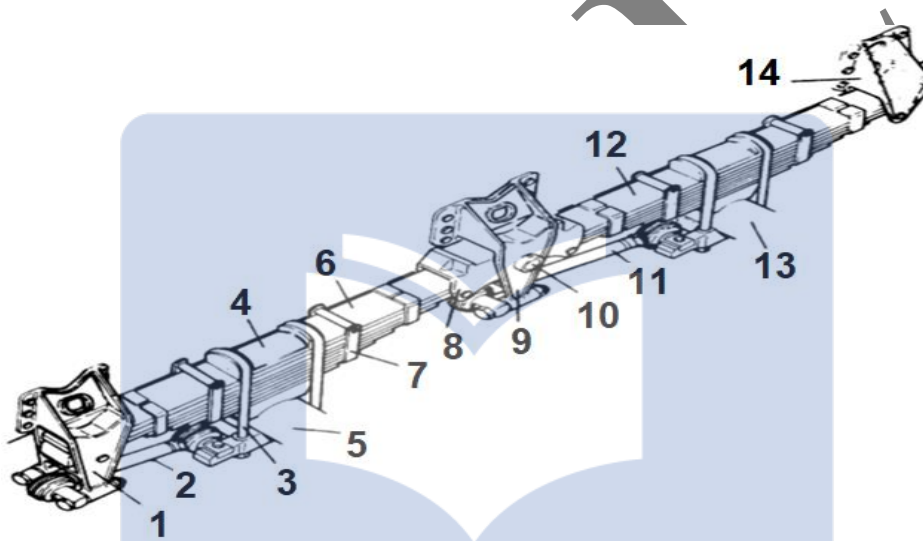

Figure 4
4. **Figure 4** below is a leaf spring used in heavy duty vehicles.